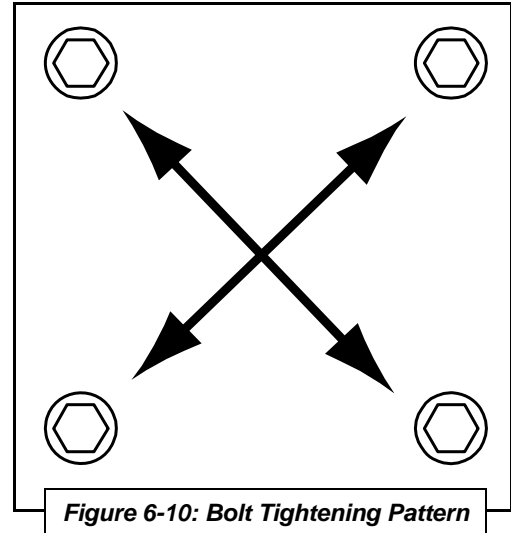

Figure 6-10: Bolt Tightening Pattern
16. Fasten compressor cover [R] to compressor body using the four (4) pan head screws [Q]. Tighten bolt pairs evenly in a criss-cross pattern (**Figure 6-10**).